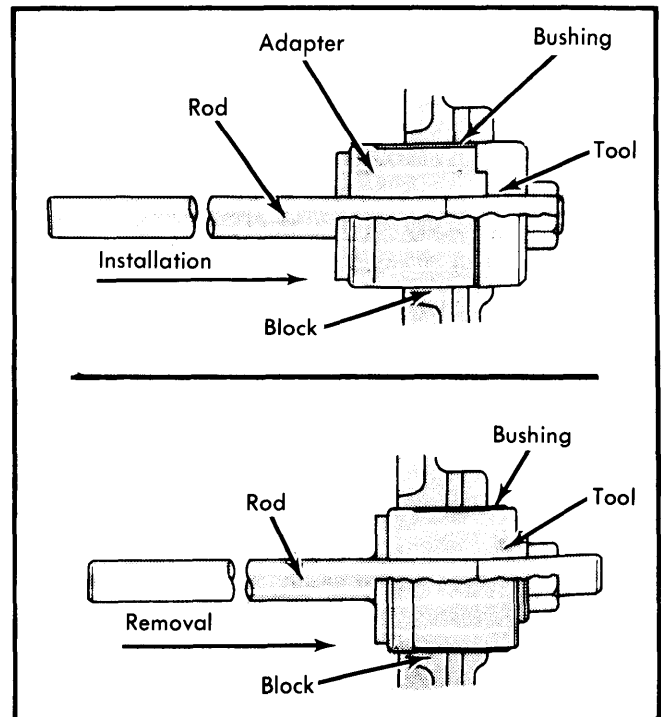

Fig. 16 Camshaft Bearing Removal and Installation
**Removal & Installation** — Use camshaft bearing removal/installation tool MH061070 (or equivalent), to remove bearings as shown in Fig. 16.